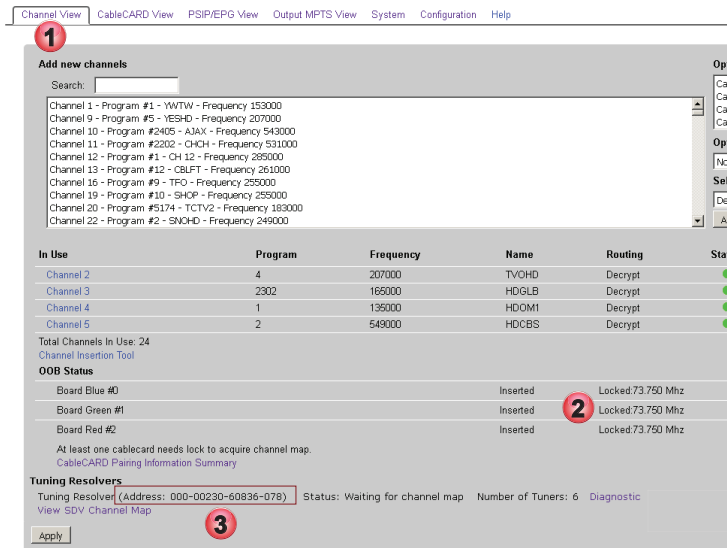

Figure 13-2: Tuning Resolver Recognized
This section assumes the Tuning Resolver is already connected. In order to get the Tuning Resolver authorized, the unit address will need to be sent to the Cable Service Provider’s authorization department since the resolver is authorized similarly to a STB. To assist in this, the system polls the connected TR and brings the address to the ‘Channel View’ page, see Figure 13-2.
1. Click the **Channel View** tab if it isn’t already selected, Figure 13-2.
3. The Tuning Resolver is automatically recognized by the system, and after a brief time, it’s presence is reported, see Figure 13-2. The address needed to authorize it will be listed beside it.